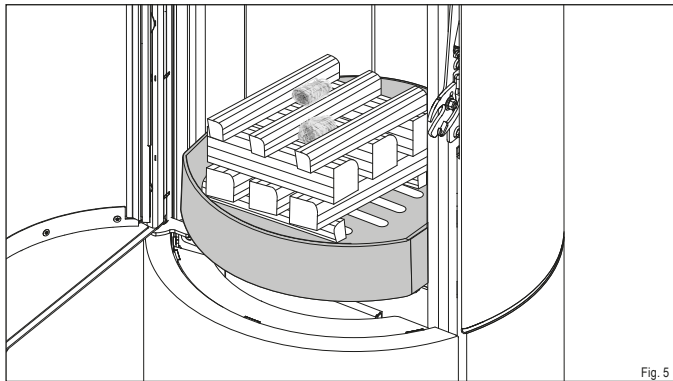

Fig. 5
- ▶ **Place the logs in the middle of the grate in the firebox (Fig. 5):**
- place the first 2 (2) at the front and back end of the grate opening, perpendicular to the firebox glass
- place the next 3 (1) on top of the first two pieces, parallel to the firebox glass
- the next 3 (1) across
- place the last 3 (2) lengthwise on top of this
- the kindling (3) in the middle between the top logs